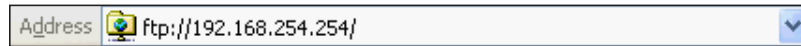

Figure 65. Enter an FTP Address (shown 192.168.254.254)
2. In the **Address** field, enter the IP address of the SME 100 using the following format, `ftp://[SME 100 IP address]` then press <Enter> (see figure 65).